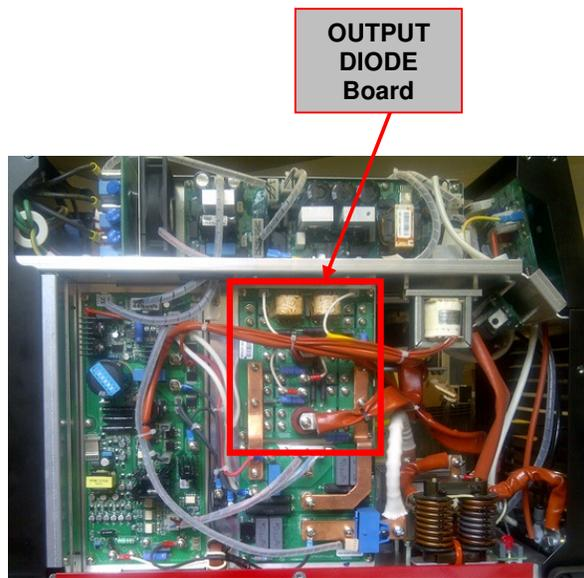

Figure 14 – W05X1523 OUTPUT DIODE board location
3. Locate the Output Diode board on the left side of the machine. See **Figure 14**.